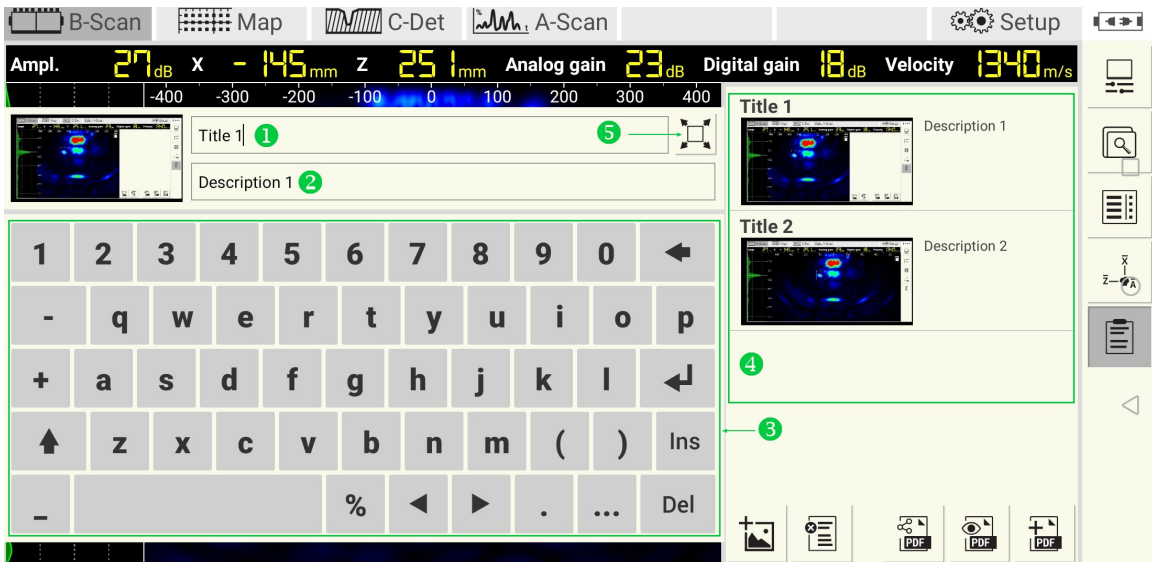

Figure 16: Screenshot editing
The operator may edit the title and the description of the screenshot at any time. The editing dialog has fields ❶ and ❷ for that. Use the keyboard ❸ for typing, Figure 16